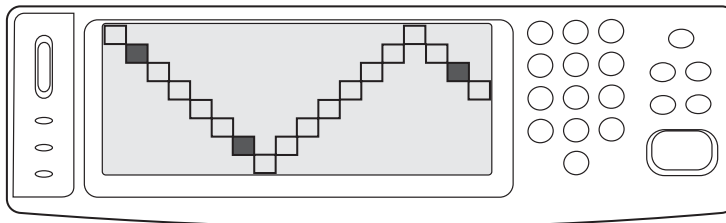

Figure 208. Calibrate the touch screen (HP LaserJet 9000mfp/9000Lmfp) (3 of 3)
- the second square from left to right on the display (see figure 208)
- the seventh square from left to right on the display see figure 208)
- the seventeenth from left to right on the display see figure 208)